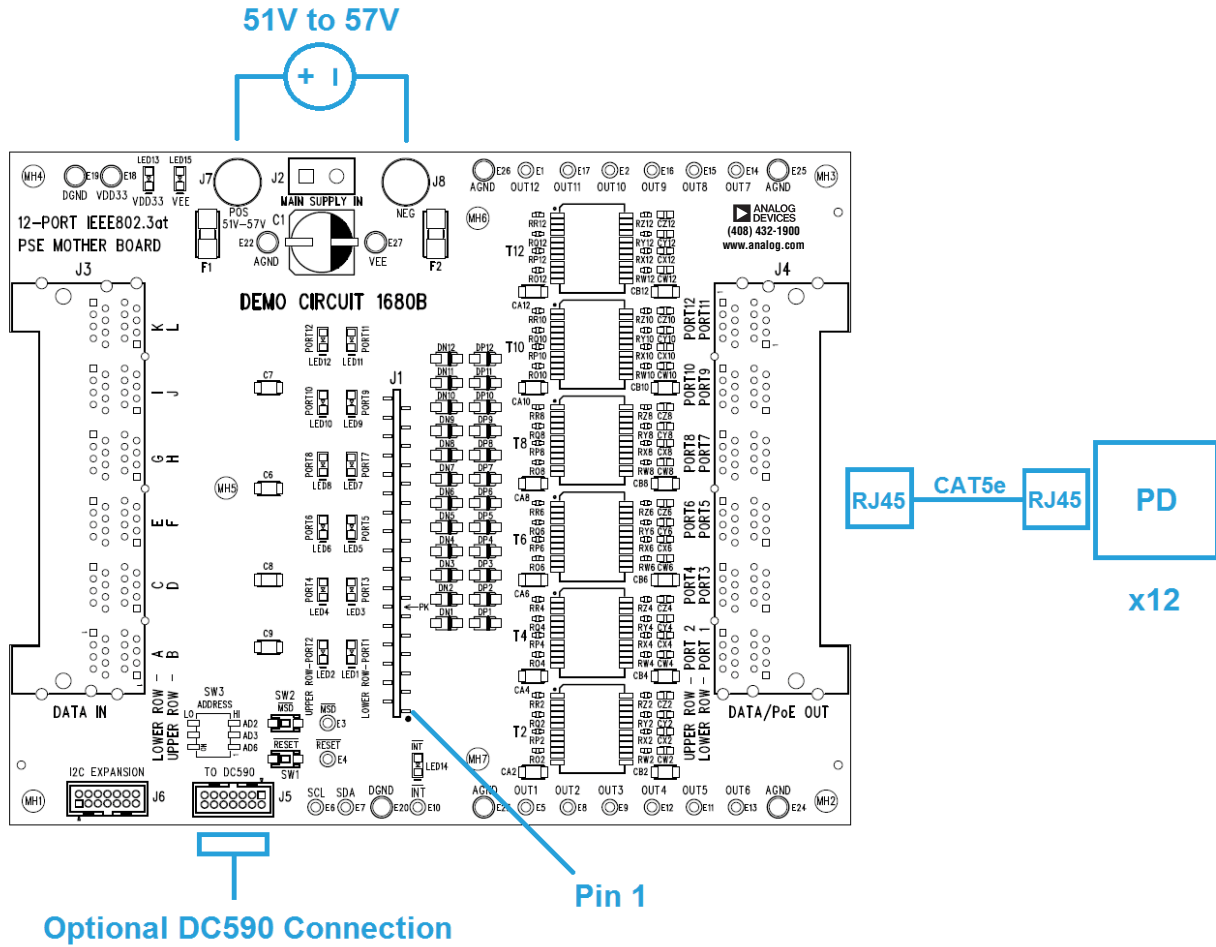
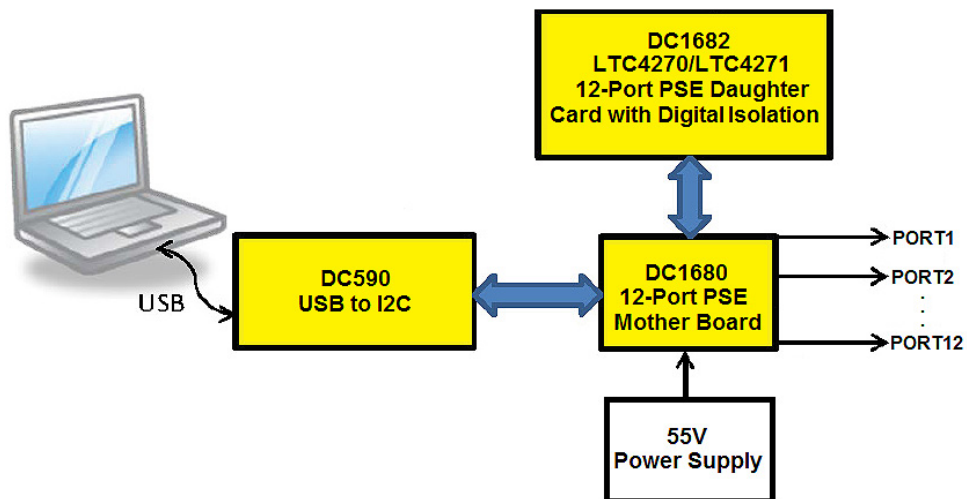

Figure 3. DC1840 Basic Setup
Figure 4. System Setup with the DC590, DC1680, DC1682 and 55V Power Supply
4. On the DC1680, connect a supply with the positive rail to POS and negative rail to NEG (Figure 3). Use a power supply capable of sourcing the maximum load expected ( $12 \text{ ports} \times 850\text{mA} \geq 10.2\text{A}$ ). Ramp the supply up to 51V to 57V.
5. Connect up to 12 PDs to the DC1680, J4 (Figure 3).
6. The DC590 is optionally connected to the DC1680 connector J5 with a 14-pin ribbon cable (Figure 3). A GUI for the LTC4270/LTC4271 is brought up by QuikEval for I2C interfacing from a PC (Figure 4).
Connect a power supply for VEE with the positive rail to POS and negative rail to NEG as shown in Figure 3 of the Quick Start Procedure. Set the voltage within the range in Table 1 depending on whether the application is a Type 1 or Type 2. Choose a power supply rating and set the current limit high enough to provide power for the maximum number of PDs connected and to meet each PD power requirements.
PDs are connected using an Ethernet cable to any of the 12 ports at the 2×6, RJ45 connector J4 on the DC1680B (Figure 3). Test points for port outputs OUT1 through OUT12 are provided.